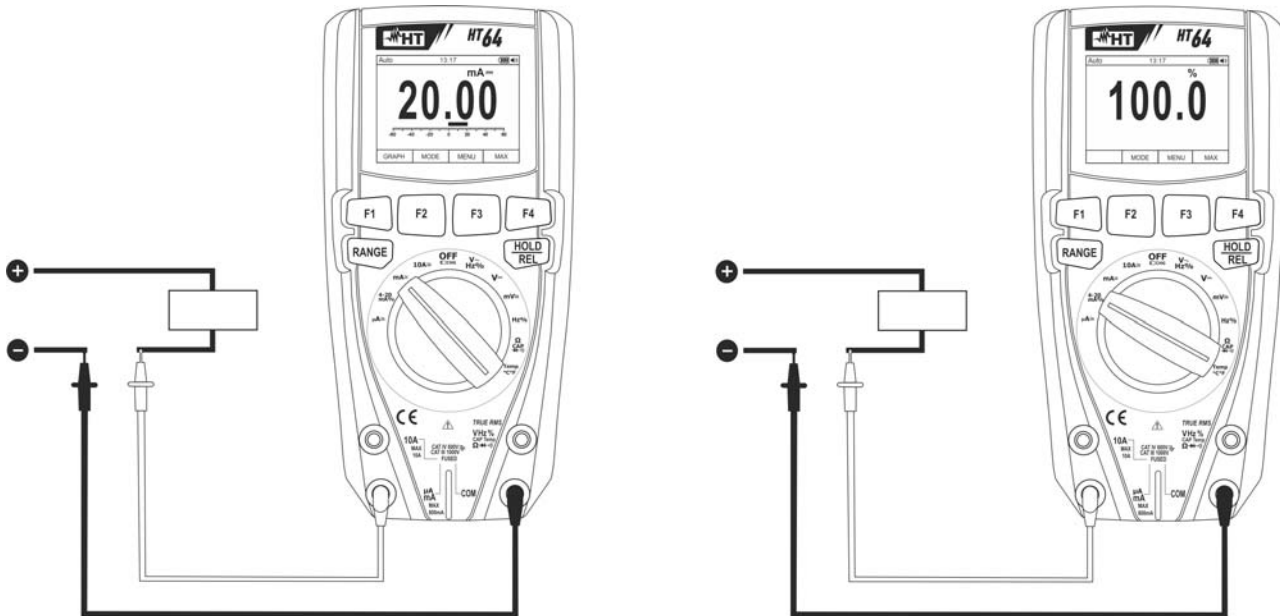

Fig. 29: Use of the instrument for DC current measurement and 4-20mA% reading.
4. Connect the red lead and the black lead in series to the circuit whose current you want to measure, respecting polarity and current direction (see Fig. 29).
6. The value of DC current (see Fig. 29 – left side) appears on the display.
7. The value of reading 4-20mA% (0mA = -25%, 4mA = 0%, 20mA = 100% and 24mA = 125%) (see Fig. 29 – right side) appears on the display. The bargraph is not active in this function.
9. When symbol "-" appears on the instrument's display, it means that current has the opposite direction with respect to the connection in Fig. 29.